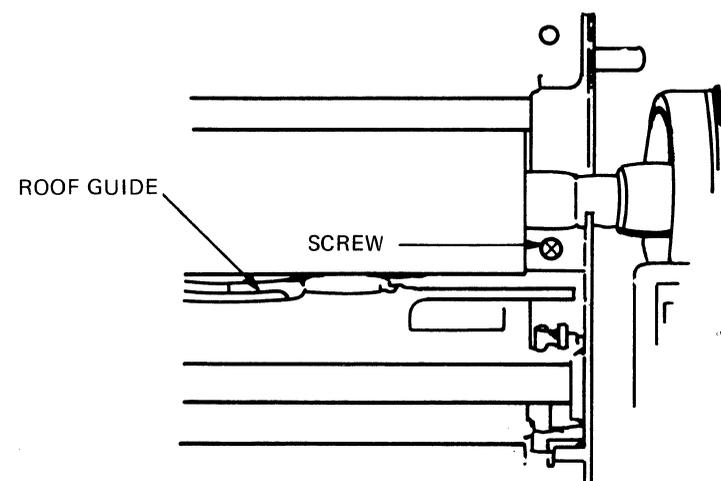

Figure 4-18 Roof Guide Installation
- i. Install the roof guide onto the frame of the Spinwriter with one screw on each end (see Figure 4-18).